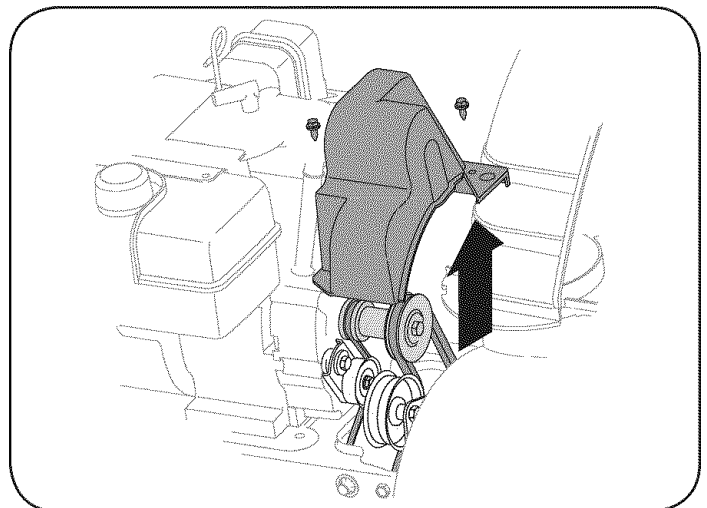

Figure 21
2. Remove the plastic belt cover on the front of the engine by removing the two self-tapping screws. See Figure 21.
- Remove the plastic belt cover on the front of the engine by removing the two self-tapping screws. See Figure 21 on previous page.